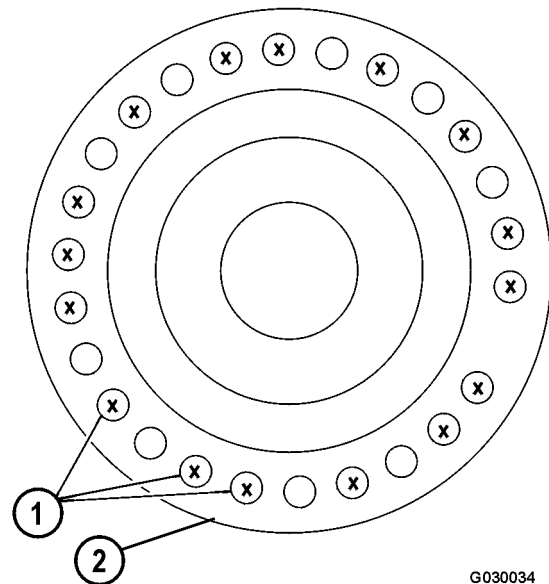

FIGURE 3-4. SPINDLE REMOVAL TOOL
- a. Refer to Figure 3-4. Remove only the capscrews that are designated by an "X".